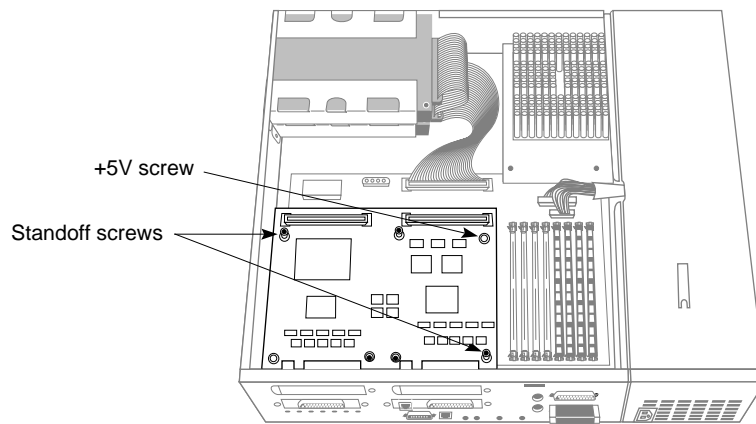

Figure 9-9 Removing the Screws From an IOPLUS
8. Use the hex-wrench tool to unscrew the two standoff screws (tall, hexagonal posts) from the IOPLUS or GIO extender board, as shown in Figure 9-9.
14. Reinsert the two standoff screws that you removed earlier on the IOPLUS or GIO extender board, as shown in Figure 9-9. Use the double-sided hex wrench to tighten them. As you tighten the screws, alternate between them so that the board is connected evenly.
15. Insert and tighten the +5 VDC screw (IOPLUS only). See Figure 9-9.